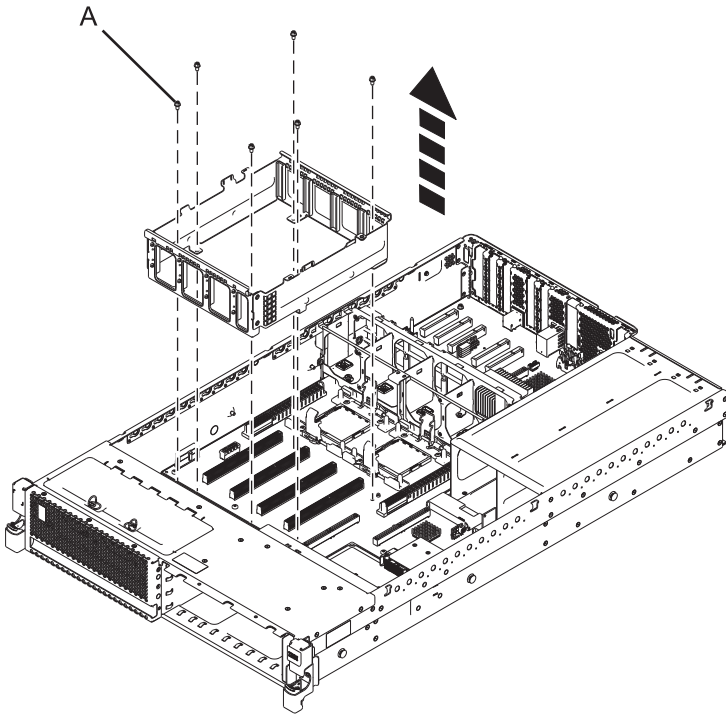

Figure 6. Removing the DIMM cage
- a. Remove the six screws that secure the DIMM cage (A). See Figure 6.